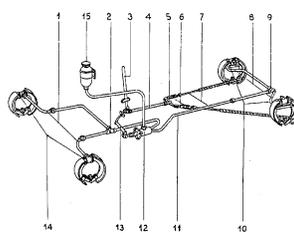

Fig. 17 Brake system
P) FOOT BRAKE (Figs. 17, 18a, 18b)